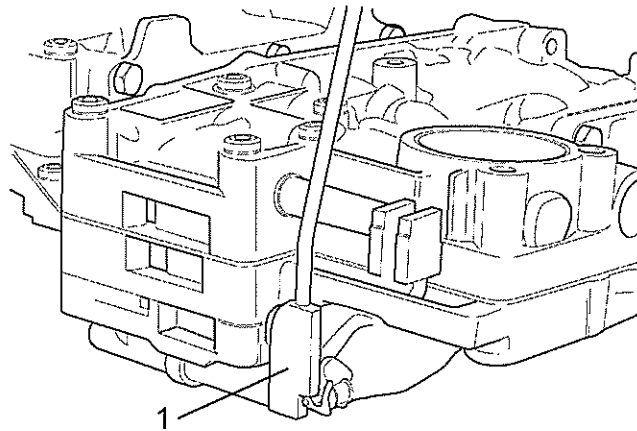

Fig 7 Throttle pressure housing
- 12.8 Place control unit gauge (see Table 1, Ser 4) between throttle piston pin and front face of throttle pressure housing (see Fig 7 (1)).